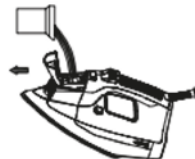

Fig. 2
- Open the lid (2).
- Slowly pour the water into the reservoir using the special measure and taking care not to go over the maximum level indicated by "MAX" on the reservoir [Fig. 2].
- Close the lid (2).